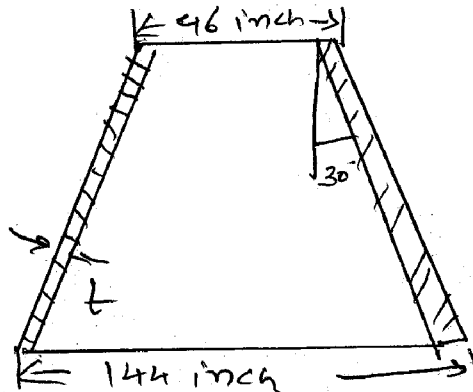

Fig. 1
- 3 (a) Check the conical head section thickness 0.375 inch is satisfactory for the following data external design pressure = 15 PSI, Material of the cone 5A 285-C and 500°F design temperature (see figure 1). 8